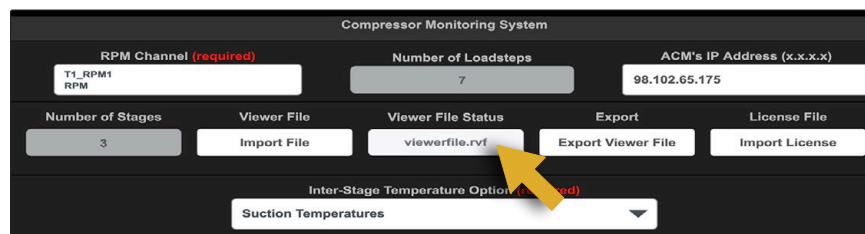

Figure 4
3. If the Viewer File was pre-installed by the Altronic Application Engineering Team, you will see the name of the file (**viewerfile.rvf** in the example in *Figure 4*) or **Viewer File Loaded**.